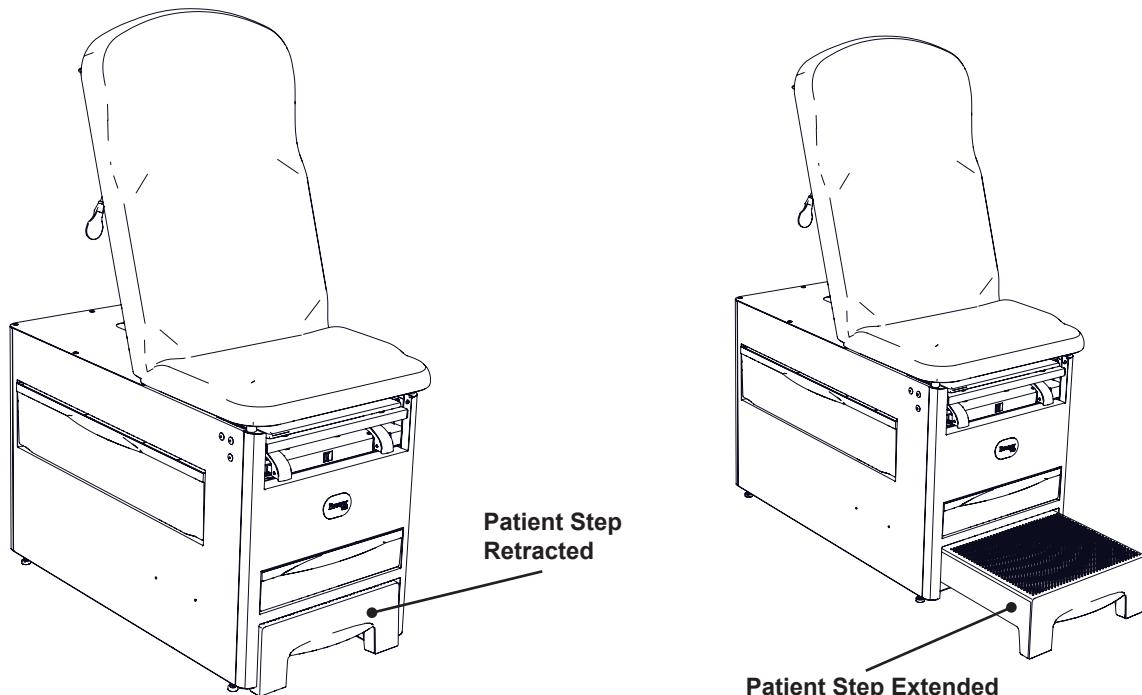

Figure 9. Operation of Patient Step
1. Place hand or foot into opening in front of step and gently lift while fully extending patient step (Figure 9).